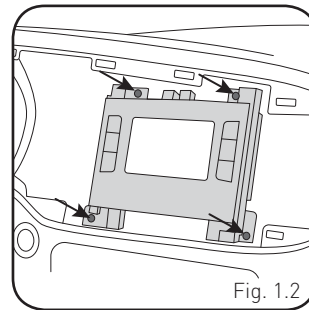

Fig. 1.2
3. Remove the four (4) 7mm screws securing the factory radio into the dash cavity. Remove the radio and disconnect the wiring harnesses and antenna connections from the back.. (Fig. 1.2)